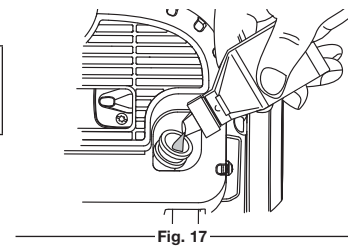

Fig. 17
4. Refill the crankcase with 2.03 fl.oz. (60 ml) of SAE 30 SF, SG, SH oil (Fig. 17).